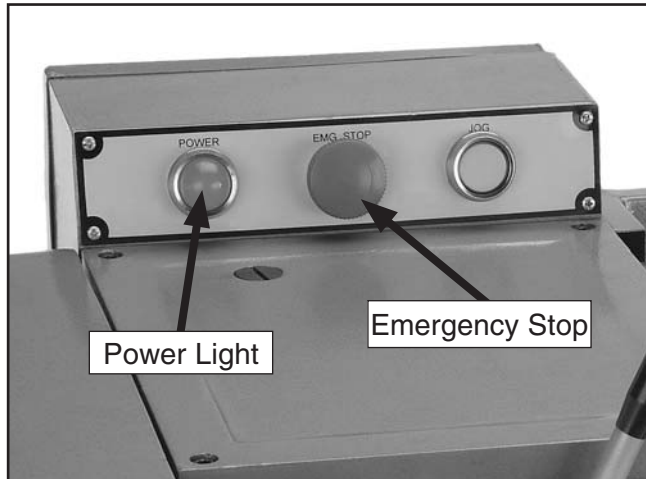

Figure 15. Power light and emergency stop locations.
Lag shield anchors with lag bolts (**Figure 8**) and anchor studs (**Figure 15**) are two popular methods for anchoring an object to a concrete floor. We suggest you research the many options and methods for mounting your machine and choose the best that fits your specific application.
Note: Once plugged in, the lathe always has power. The green "Power" light shown in **Figure 15** will be lit to indicate a live connection unless the EMERGENCY STOP button is pushed in. To cut power to the machine entirely, you will need to unplug or disconnect the lathe from the power source.
3. Rotate the EMERGENCY STOP button (**Figure 15**) in the direction of the arrows on the button and allow it to pop out.